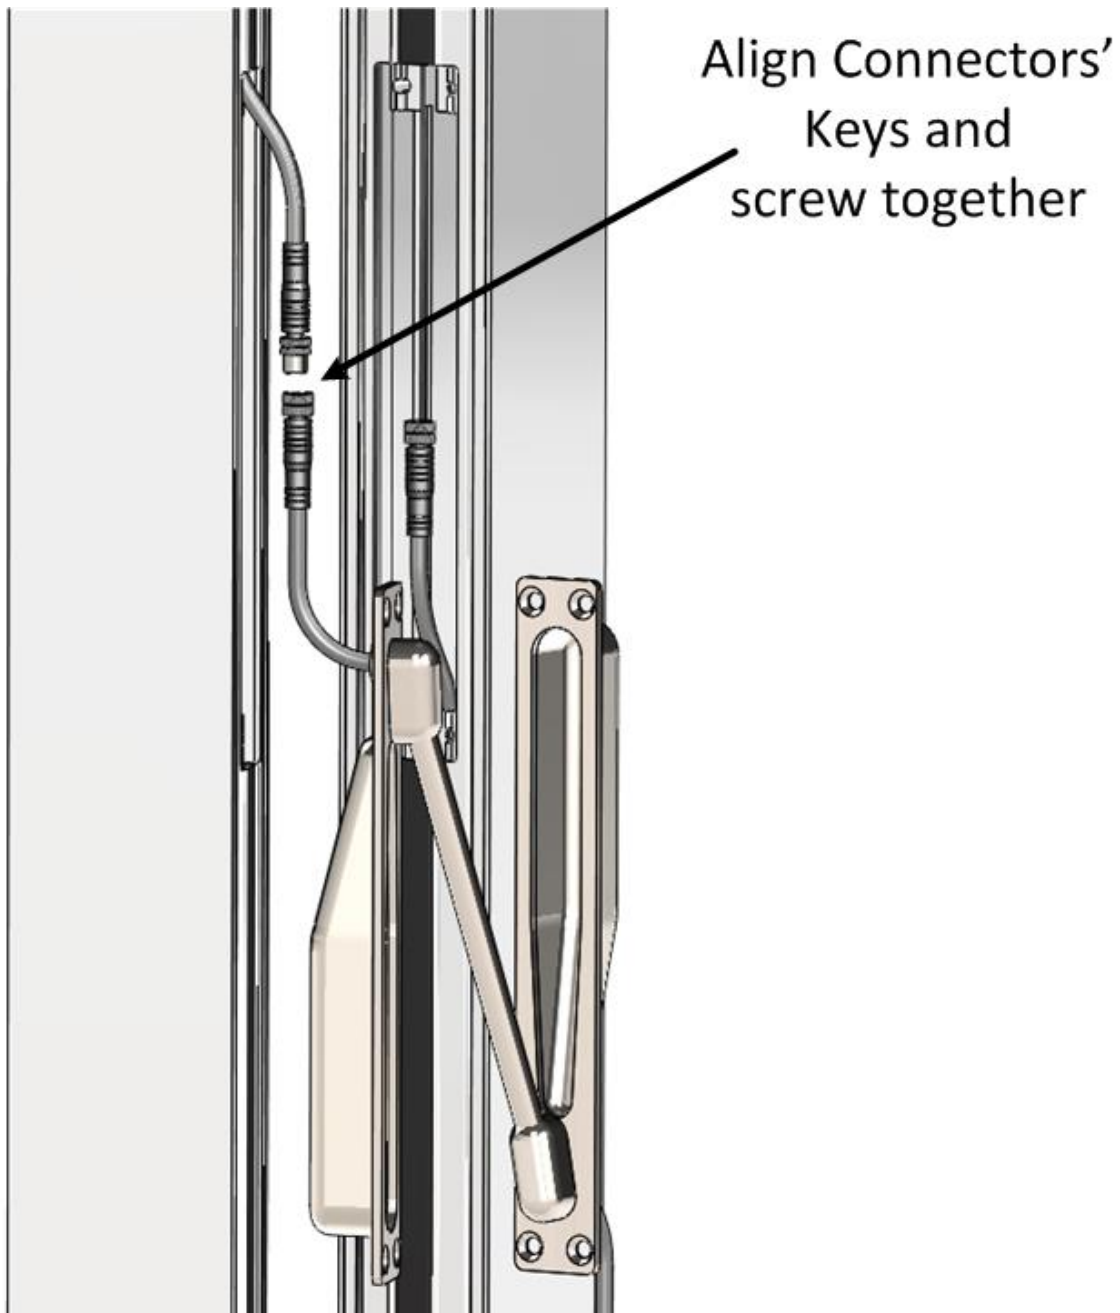

Figure 3 - Connecting the Concealed Transfer Assembly to Frame and Door Wiring
4. Illustrations in figures 3 and 4 show the connections from the Window Controller to the Concealed Transfer and then to the IGU.